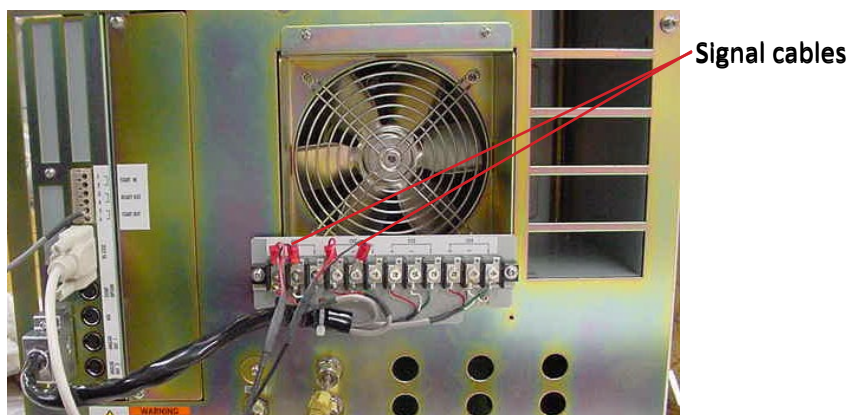

Figure 3.16. Connection Using Two Signal Cables
4. Connect the spade lug end of the signal cable(s) to the terminal strip, the red wire to "+", and the black wire to "-". See Figure 3.16.